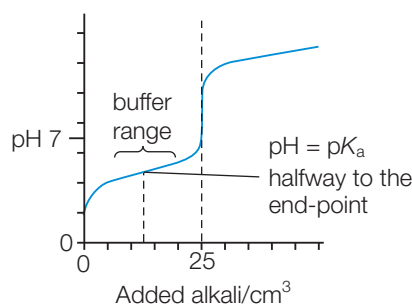

Figure 12.20 ▲
Hence, $\text{pH} = \text{p}K_a$ halfway to the equivalence point (Figure 12.20). The pH changes rather slowly in the range of added volumes of alkali from about 5 cm^3 to 20 cm^3 . In this range the titration flask contains a series of buffer solutions.
- b)** Why is phenolphthalein an unsuitable indicator for the titration illustrated by Figure 12.20?